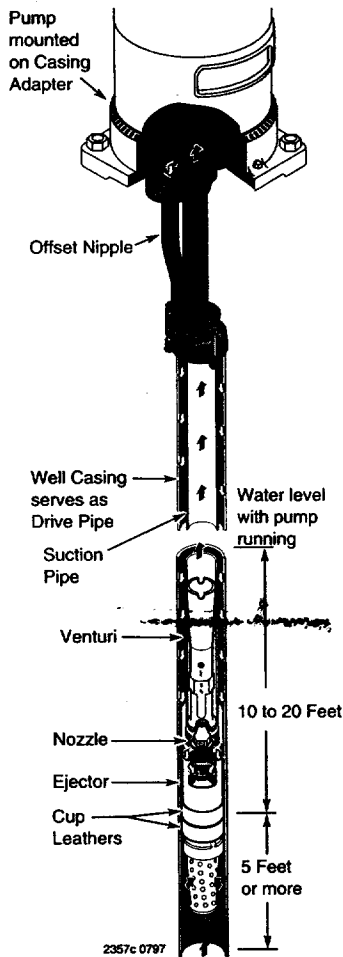

Figure 9
Single pipe installations require (see Figure 9):
NOTICE: As a guide, the ejector should be set at least 10 to 20 feet below the lowest water level with pump running, if possible, but always at least 5 feet above the bottom of the well (see Figure 9, Page 7).
4. To properly seat the cup seals, after the ejector is correctly positioned move the assembly up and down slightly. Water pressure in the casing will then soak the cup seals (see Figure 9). They should seal in 2-3 hours after installation.